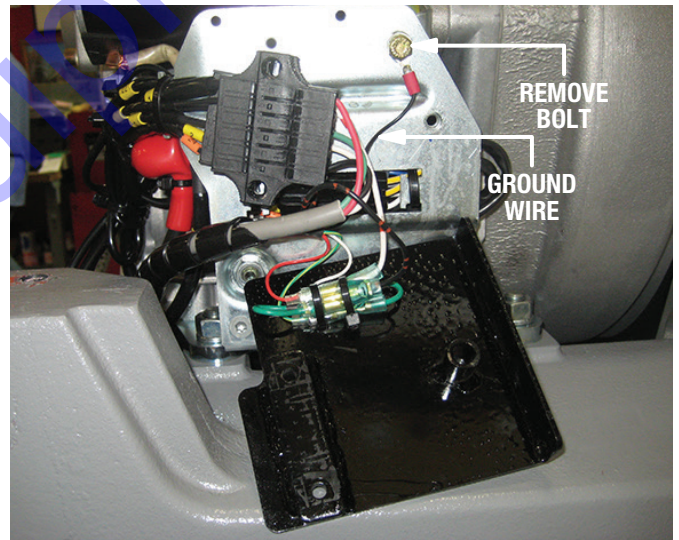

Figure 21. Ground Wire Disconnection (MVH508DZ)
- Remove the hex head bolt securing the ground wire to the plate behind the electrical panel (Figure 21).